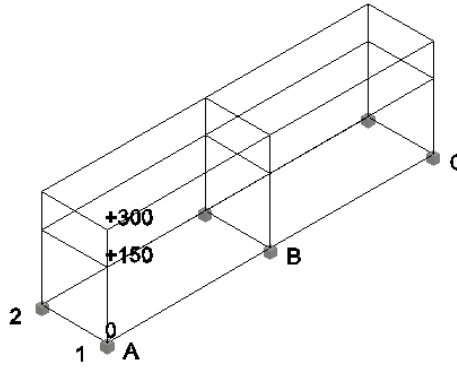

Figure 3-29 Model after adding footings
3. Choose the **Footling** tool from the **Parts** panel; you are prompted to select the insertion point. Place the footings at the bottom grid points, as shown in Figure 3-29.